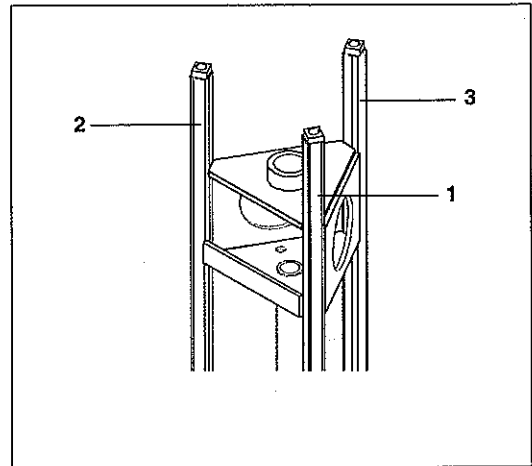

figure 19
- a. Number the tubes on the core as 1, 2 and 3 (figure 19).